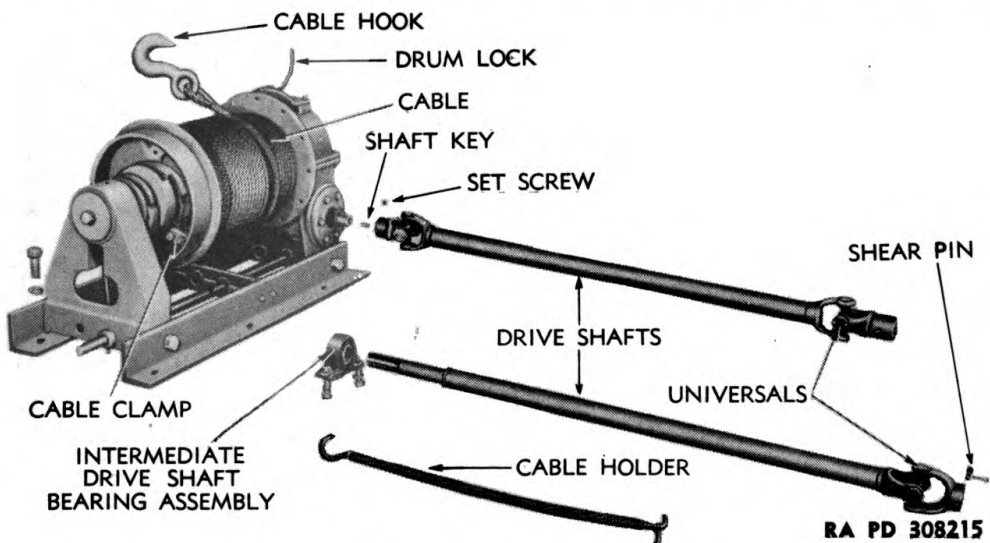

Figure 113 – Winch and Winch Drive Shafts
a. **Remove Cable From Drum** (fig. 113). Lift winch assembly onto blocks or suitable bench with chain hoist. Unhook line holder from around drum of cable. Unlock cable drum lock at top of gear housing; see that jaws of sliding clutch are disengaged from jaws on